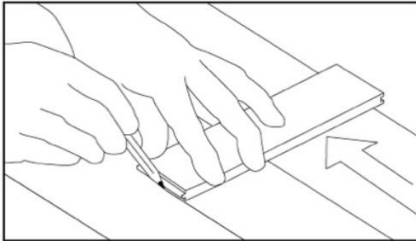

Figure 13
- If the wall is not straight, scribe the first board (Figure 13) as necessary to maintain alignment with the chalk line. Install a sacrificial board (with a straight edge) using the appropriate fasteners for the subfloor. If a board is used for the starter row, make certain the groove faces the wall.
- Align the first row with the wall using wedges to maintain a 1/2" (13 mm) expansion in place and to stabilize the product. If the wall is not straight, scribe the first board (Figure 13) as necessary to maintain alignment with the chalk line.